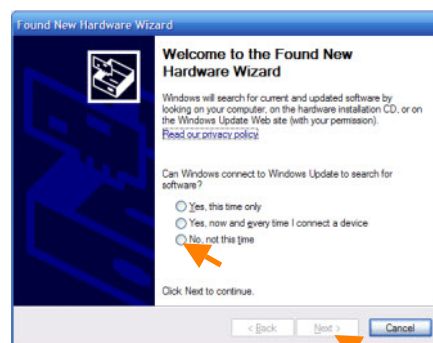

Figure 2.6
3. Your computer will report that it has found new hardware and the Found New Hardware Wizard will start (Figure 2.6). The Found New Hardware Wizard will ask if you want Windows to search for a driver. **Select "No, Not this time."** and then click **Next**.